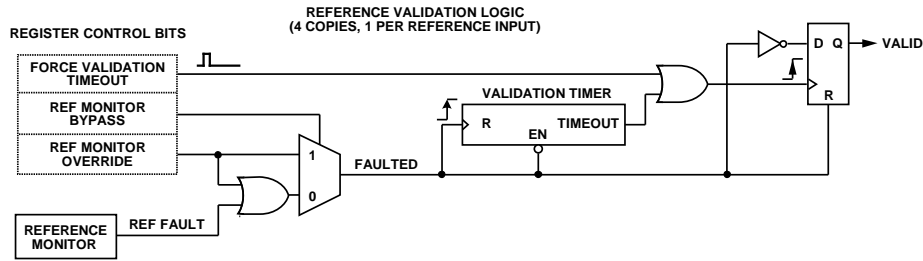

Figure 34. Reference Validation Override
Register 0x0A0E to Register 0x0A10 provide the user with the ability to override the reference validation logic, enabling a certain level of troubleshooting capability. Each of the four input references has a dedicated block of validation logic, as shown in Figure 34. The state of the valid signal at the output defines a particular reference as valid (1) or not valid (0), which includes the validation period (if activated) as prescribed by the validation timer. The override controls are the three control bits on the left side of the diagram.